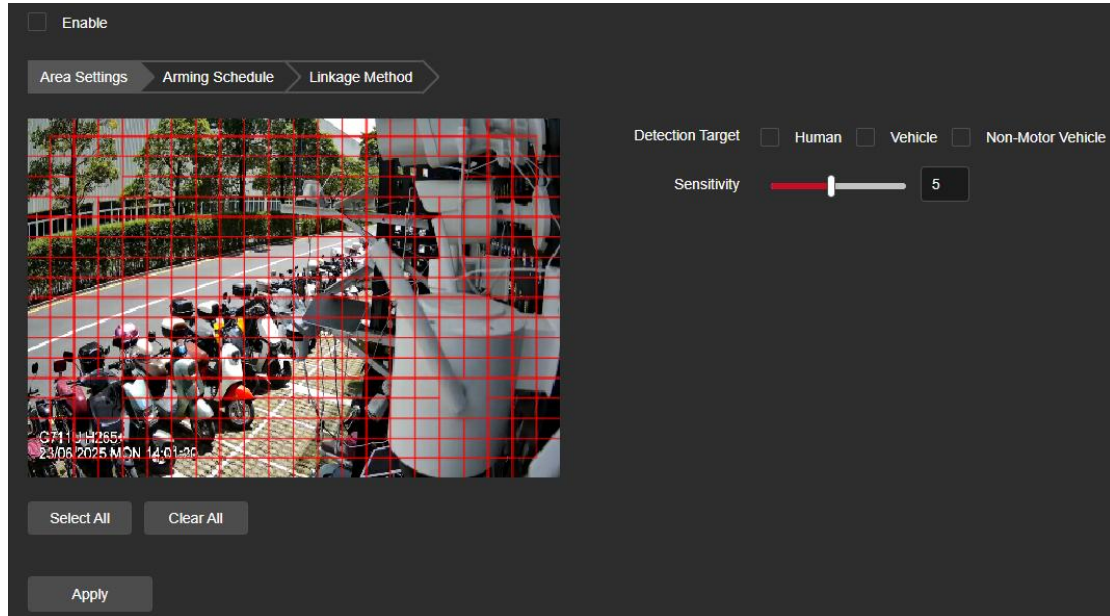

Figure 8-6-1
Step 1: In the main interface click on the "Configuration → Event → Basic Event → Motion" to enter the motion detection settings interface, as shown in Figure 8-6-1.